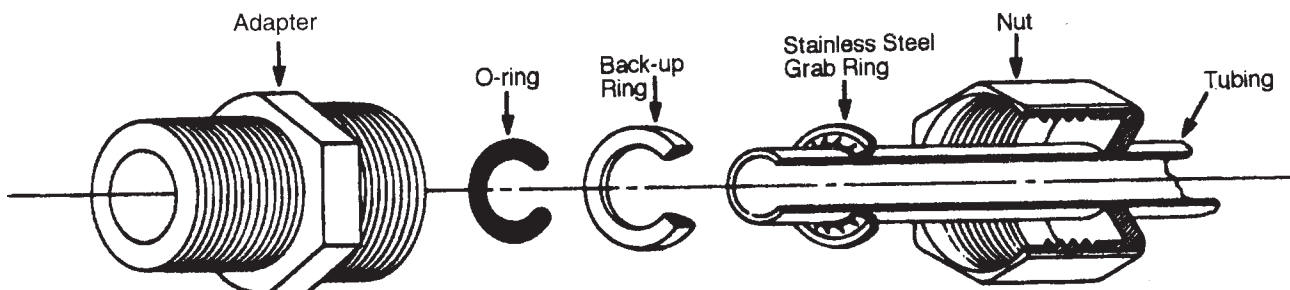

Figure 2 Typical Polypropylene Tubing Adapter Installation
1. Completely disassemble the fitting. Refer to Figure 2 to familiarize yourself with the names of the component parts.
3. Place the grab ring and backup ring in the hex nut in the order and orientation shown in Figure 2. Thread the nut into the adapter. **DO NOT** use the o-ring at this time.
1. Locate the reject water tubing. This is the piece of 3/8" O.D. tubing that has an adapter on one end and no connector on the other end. Remove the nut, grab ring, backup ring and o-ring from the reject water fitting located at the lower right of the unit. (See Figure 2 for part identification).
- ring, back-up ring and o-ring from the top two connections on the membrane. See Figure 2 for part identification.
1. Remove the membranes from the packaging and remove the nut, grab ring, back-up ring and o-ring from the top two connections on both membranes. See Figure 2 for part identification.